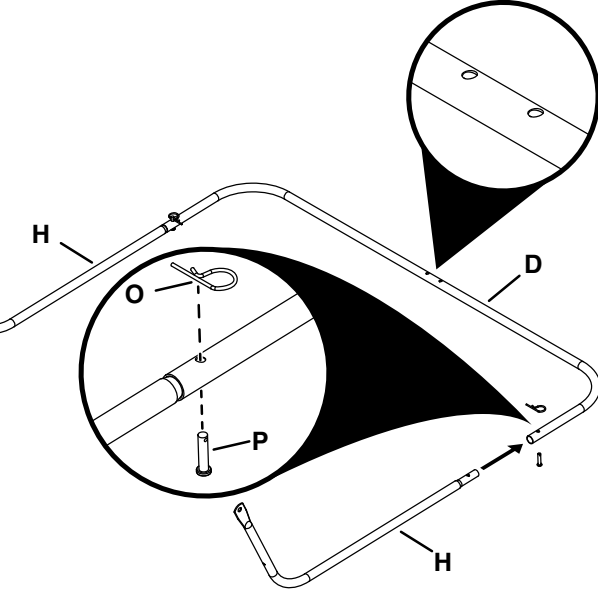

Figure 5
STEP 5: (SEE FIGURE 5)
- Attach the lower hopper tubes (H) to the rear hopper tube (D) using 3/32" x 1.8" hair pins (O) and 1/4" x 1.11" clevis pins (P).
- Ensure the holes are facing up on the rear hopper tube (D).